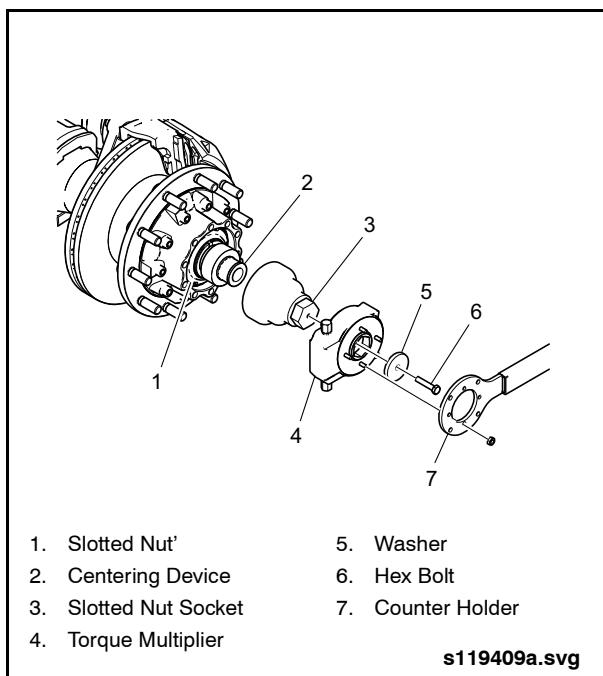

Fig. 2-16: Loosening Slotted Nut
4. Operate the torque multiplier in a counter-clockwise direction to loosen the slotted nut. See "Fig. 2-16: Loosening Slotted Nut" on page 19.